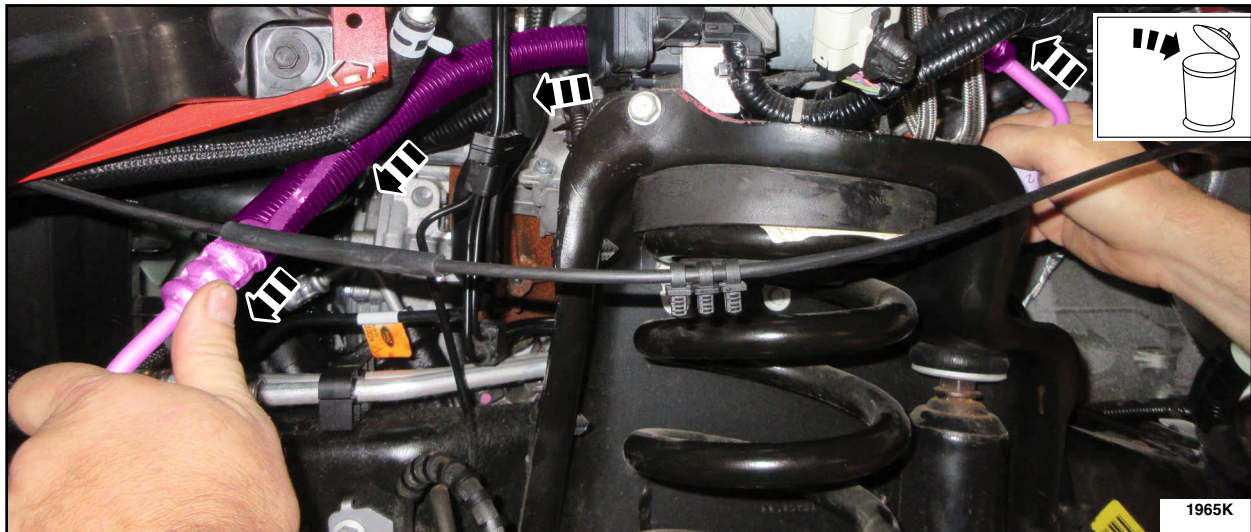

FIGURE 25
5. Working through the wheel well, remove and discard the Hydro-Boost to steering gear pressure hose. See Figure 25.